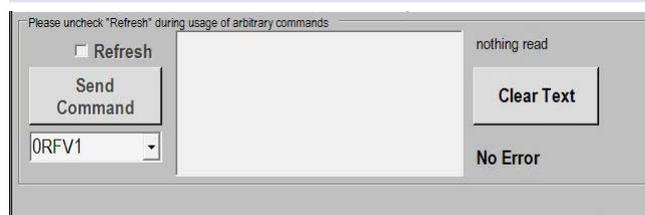

Fig.21: Command section of the User Interface
- Make sure the Refresh Box is unchecked (→ Fig. 21)